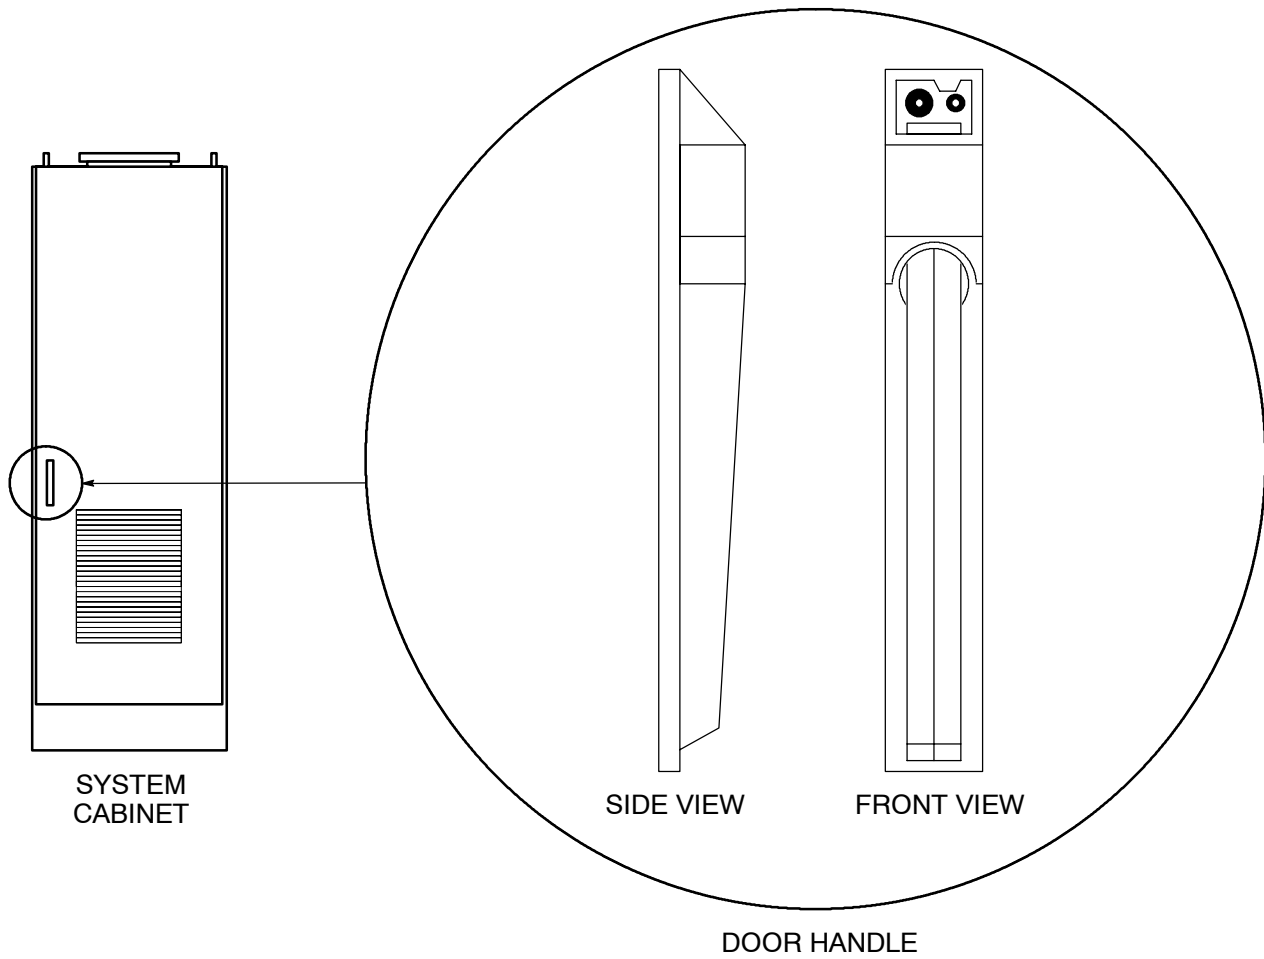
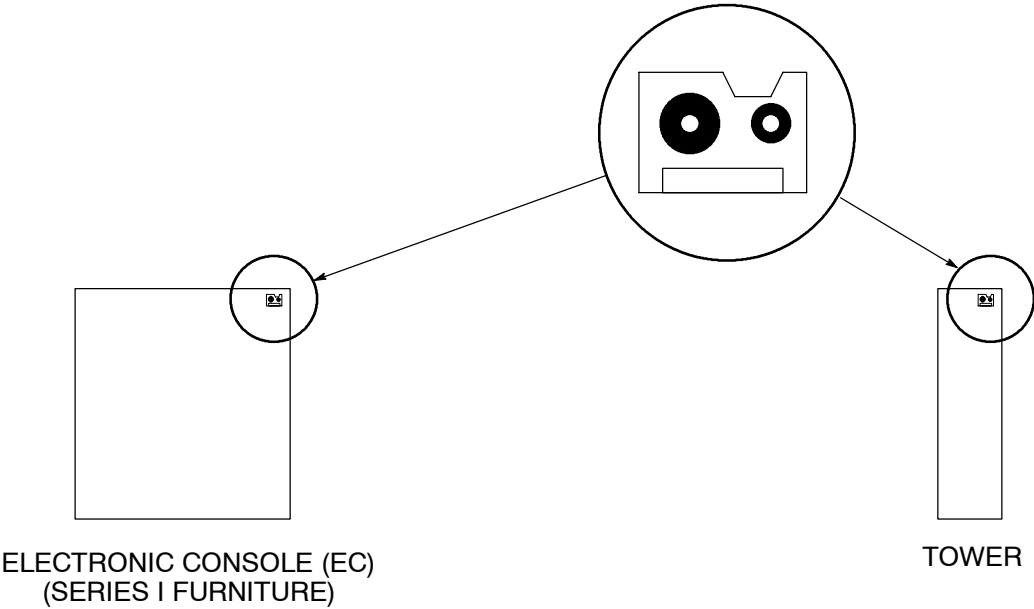

Figure 1.1.0. Tape Drive Location Label on the System Cabinet
Figure 1.1.0B. Tape Drive Location Labels on the Electronic Console and Tower
Figure 1.1.0 through Figure 1.1.0B illustrate the placement of tape drive labels on system equipment. The presence of this label indicates that a tape drive is located behind that door.
Figure 1.1.0 shows the label on the system cabinet. The symbol on the door handle indicates the access location to the tape drive.
Figure 1.1.0B shows the label on the Electronic Console (EC) and tower. The door on which the tape symbol is located indicates which door provides access to the tape drive.